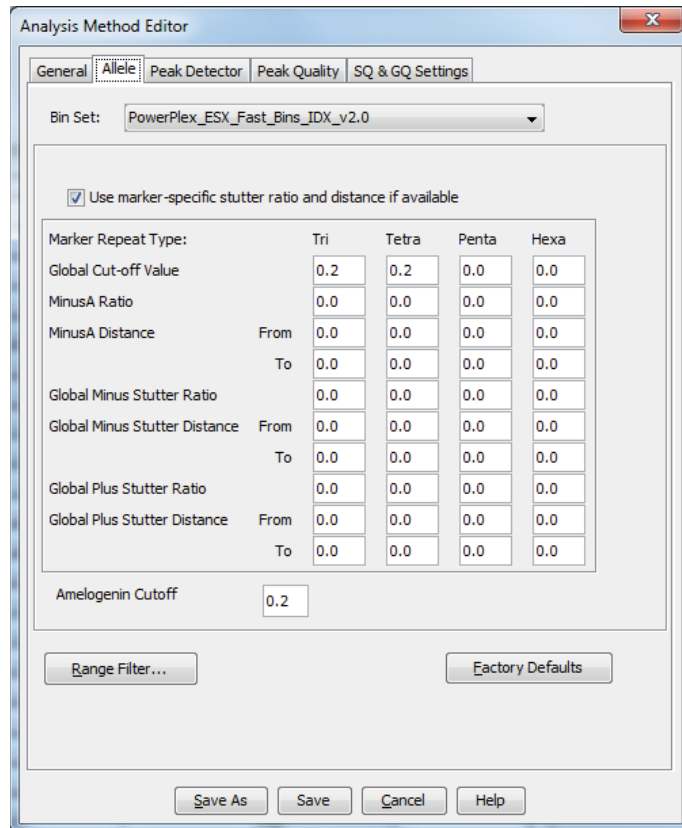

Figure 17. The GeneMapper® ID-X 'Allele' tab with settings for using a 20% peak filter.
6. Select the 'Allele' tab (Figure 17).
8. Ensure that the "Use marker-specific stutter ratio and distance if available" box is checked. Doing this will assign locus-specific stutter filters and distances from the imported stutter file. Ensure that the appropriate global filter is applied to this analysis method. For example, for a 20% filter enter "0.20" for the Amelogenin Cutoff and Global Cutoff Value for Tri and Tetra repeats (Figure 17). You may need to optimize these settings. In-house validation should be performed.